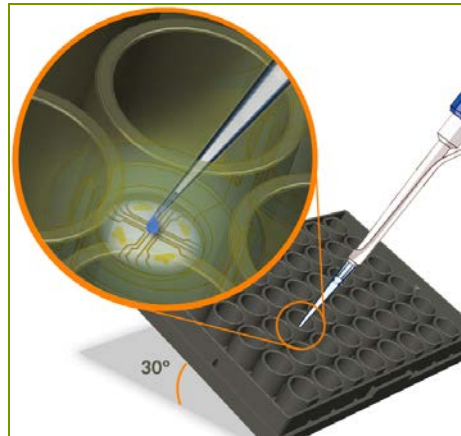

Figure 1: Droplet Placement
2. Tilt the MEA plate at an angle so that the bottom of each well is visible. Dispense a 5 µl/well droplet of fibronectin over the recording electrode area of the well of the MEA plate (Figure 1).
2. Dispense a 5 μl /well droplet of the cell suspension (approximately 50,000 cells) over the recording electrode area of the MEA plate (Figure 1).
6. Tilt the MEA plate at 30 degrees (Figure 1). Gently add 150 μl /well of 37°C Maintenance Medium down the side of the well of the MEA plate one row at a time using the 12-channel pipettor. Adding the medium too quickly will dislodge the adhered cardiomyocytes.